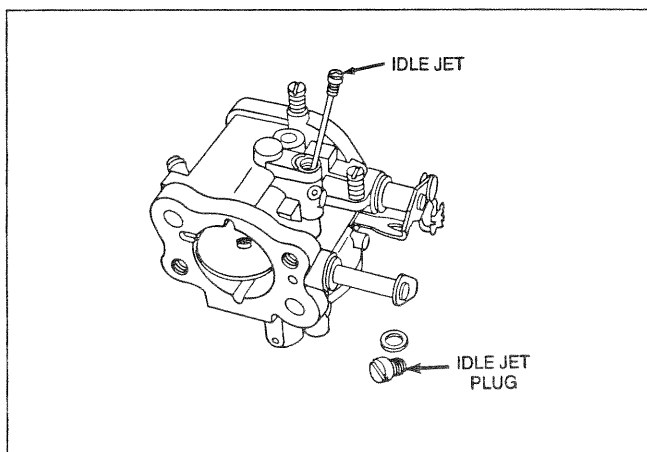

Figure 130. Idle Jet Removal
- Remove idle jet plug and idle jet (Figure 130).